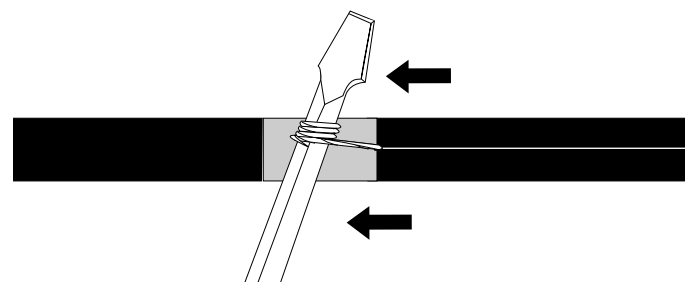

Figure 6
4.6 Pull the rip cord through the sheath to the wrap of tape (Figure 6). Cut the rip cord flush at the tape mark.